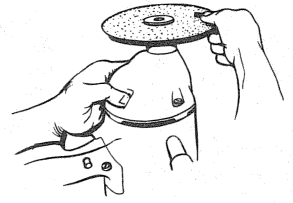

Fig. 1
- With one hand, depress the spindle lock button and hold the button down. Grasp the pads and sanding disc with the other hand and turn by hand to tighten the entire assembly (fig. 1).